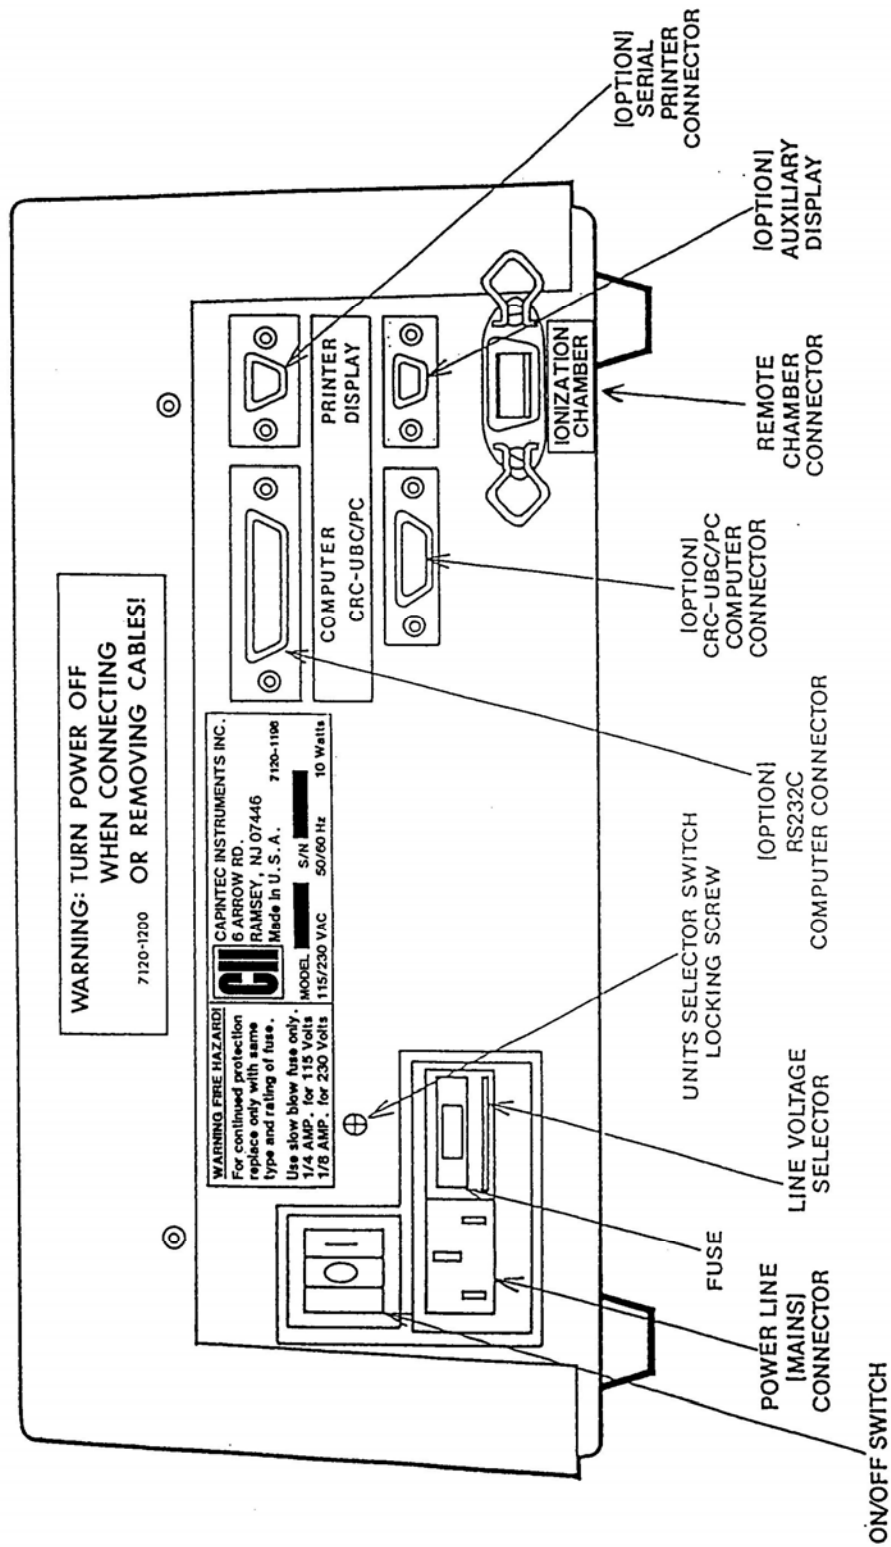

Figure 3-4 CRC-712R Back Panel
1. Facing the rear of the calibrator, locate the Unit's Selector Switch Locking Screw and remove it from its storage position (Refer to Figures 3-4, 3-5 or 3-6).